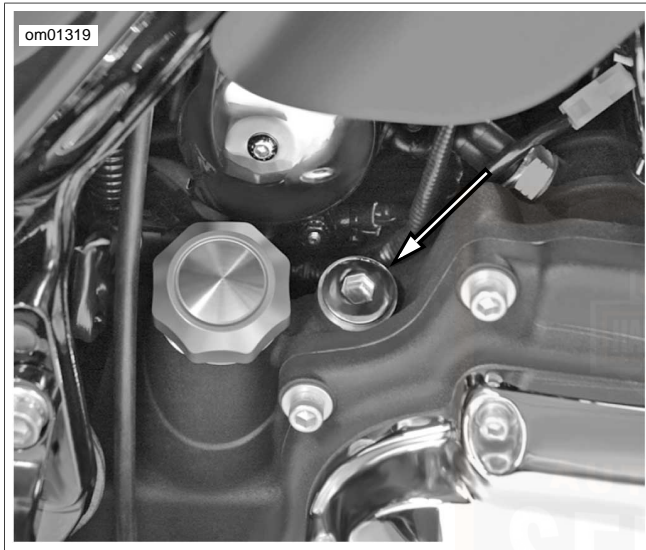

Figure 45. Transmission Filler Plug/Dipstick Location
1. See Figure 45. Remove the threaded filler plug/dipstick.